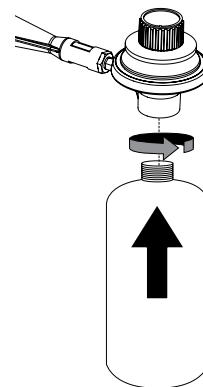

Figure 1
This grill is designed to operate with a 1 lb. 7.75 in. or 10.6 in. high disposable / 16.4 oz. or 14.1 oz. propane gas tank (DOT 39 Cylinder) (Figure 1). DO NOT ATTEMPT TO REFILL ANY 1 lb. (16.4 oz. or 14.1 oz.) PROPANE GAS TANKS!
3. Insert and rotate LP gas tank clockwise until they fit snugly together. (Figure 1)